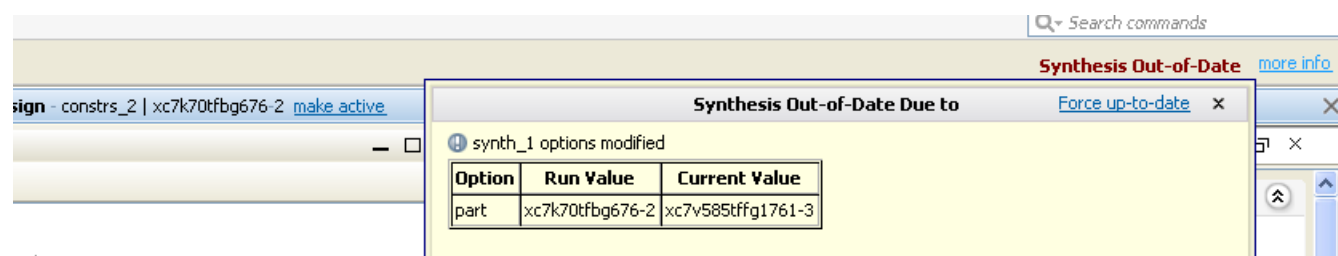

Figure 2-15: Design Out-of-Date and Reload Banner
As source files, netlists, or implementation results are updated, an “out-of-date” message is displayed at the right side of the Design View banner of an open Synthesized Design or Implemented Design to indicate that the run is out of date, as shown in Figure 2-15. Click the **more info** link to display what aspects of the design are out of date.
- **Force up-to-date** — Select the **Force up-to-date** link in the “Out-of-Date Due to” window that is opened when you click **more info** as shown in Figure 2-15.